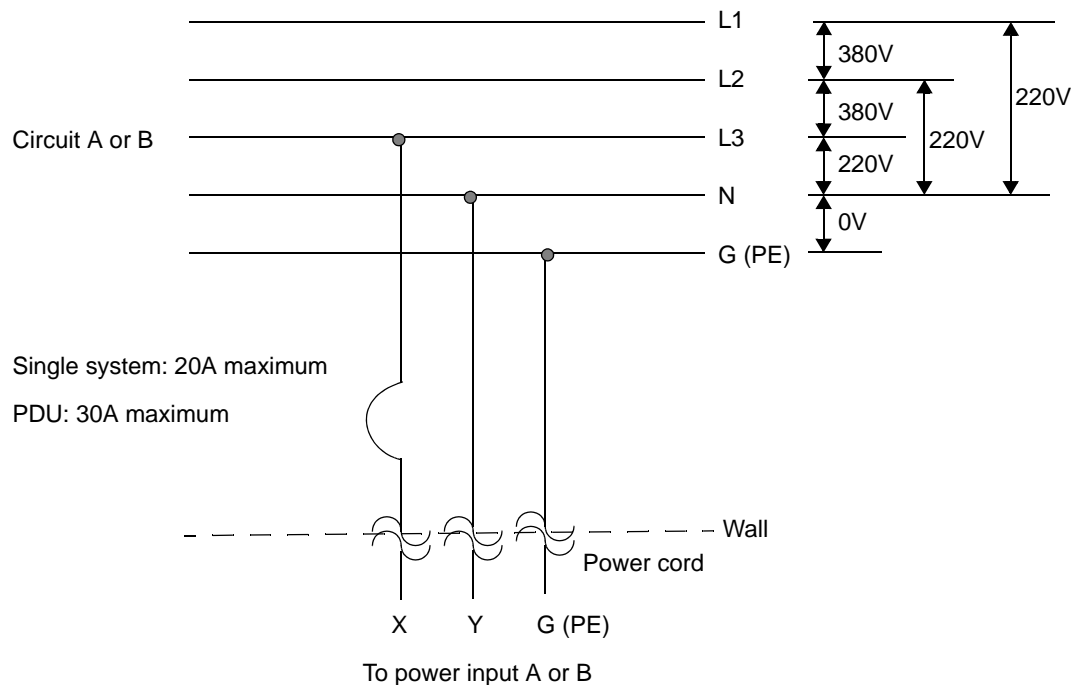

Figure B-7. Three-Phase 380-VAC, Y-, or Δ-Source Circuit Connection, Phase-to-Neutral
- Figure B-7 illustrates a three-phase 380-VAC, Y-, or Δ -source circuit connection, phase-to-neutral.
Figure B-7 illustrates a three-phase 380-VAC, Y-, or Δ-source circuit connection, which is a phase-to-neutral source connection. Note that the ftServer system X input can be connected to L1, L2, or L3. This application requires a single-pole circuit breaker.